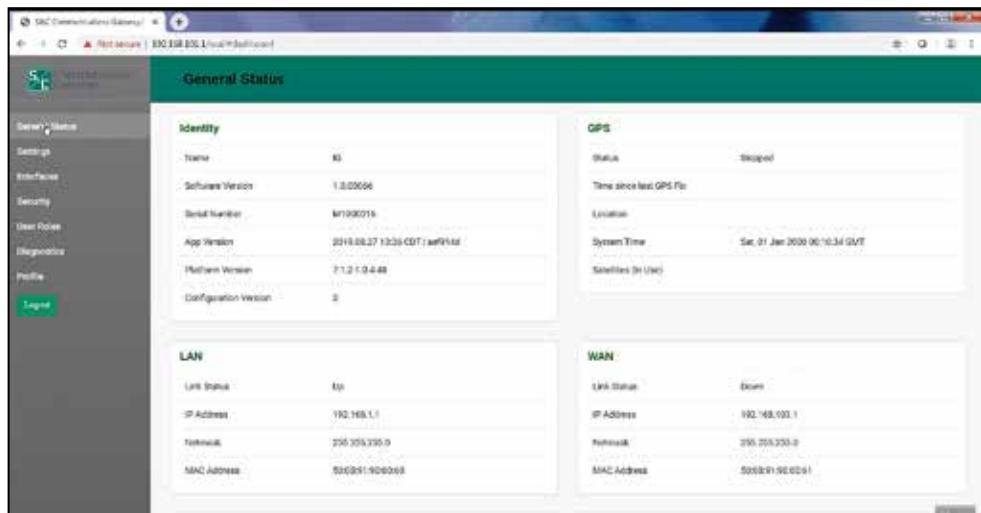
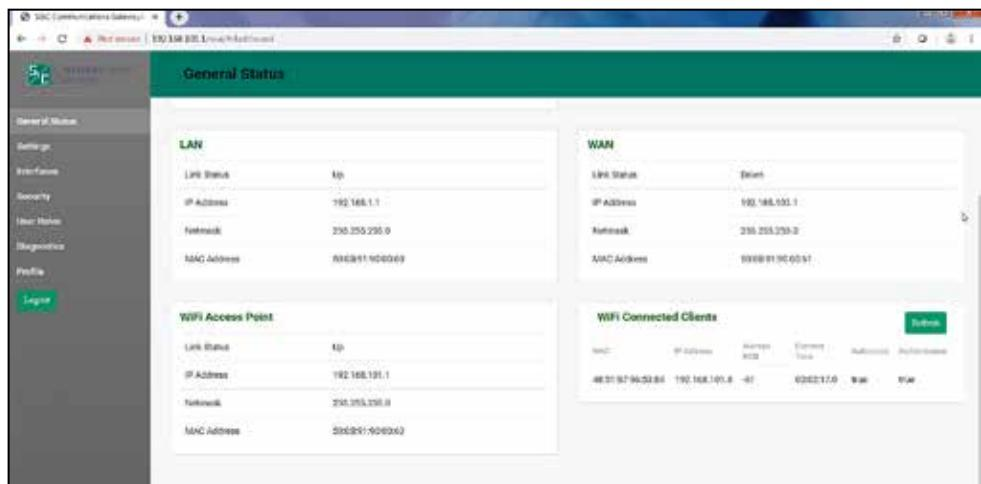

Figure 7. The top of the *General Status* screen.
Figure 8. The bottom of the *General Status* screen.
**STEP 5.** To skip this screen and keep the default password setting, click on an entry in the left menu. Figures 7 and 8 on page 11 show the *General Status* screen.
The *General Status* screen is comprised of the Identity, GPS, LAN, WAN, Wi-Fi Access Point, and Wi-Fi Connected Clients panels. The Identity panel contains six fields: **Name**, **Software Version**, **Serial Number**, **App Version**, **Platform Version**, and **Configuration Version**. The GPS panel contains five fields: **Status**, **Time Since last GPS Fix**, **Location**, **System Time**, and **Satellites (In Use)**. The LAN and WAN panels contain four fields each: **Link Status**, **IP Address**, **Netmask**, and **MAC Address**. See Figure 7. The Wi-Fi Access Point panel contains four fields: **Link Status**, **IP Address**, **Netmask**, and **MAC Address**. The Wi-Fi Connected Clients panel contains six fields: **MAC Address**, **IP Address**, **Average RSSI**, **Connect Time**, **Authorized**, and **Authenticated**. See Figure 8.